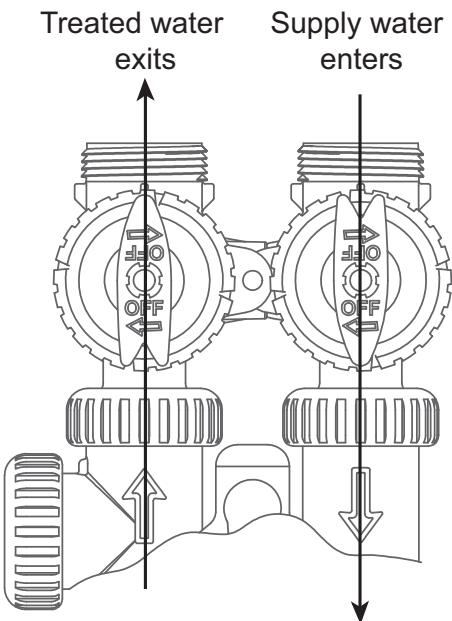

Figure 1 Normal Operation Position
- Normal Operation Position:** The inlet and outlet handles point in the direction of flow indicated by the engraved arrows on the control valve. Water flows through the control valve for normal operation of a water softener or filter. During the regeneration cycle this position provides regeneration water to the unit, while also providing untreated water to the distribution system. Refer to Figure 1.